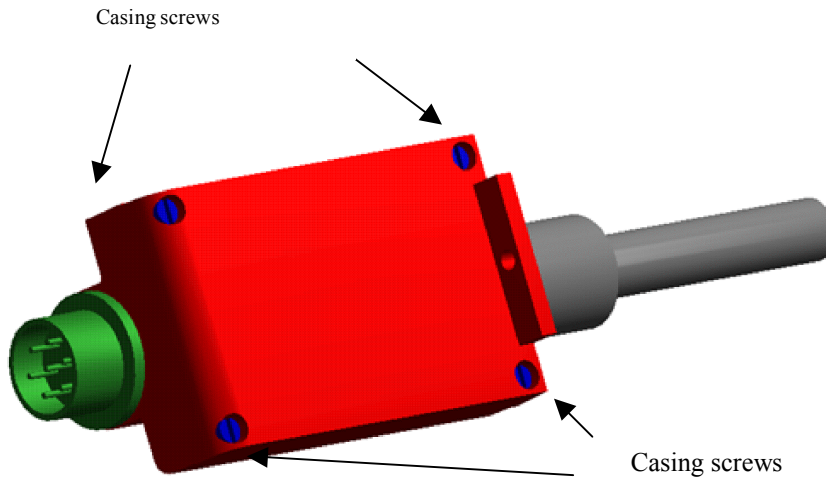

figure 14: Lower view of container for housing PC Series electronics
To gain access to push buttons A and B you need to open the cover (*figure 14*) doing the following operations:
- Unscrew the four screws as shown in *figure 14*;